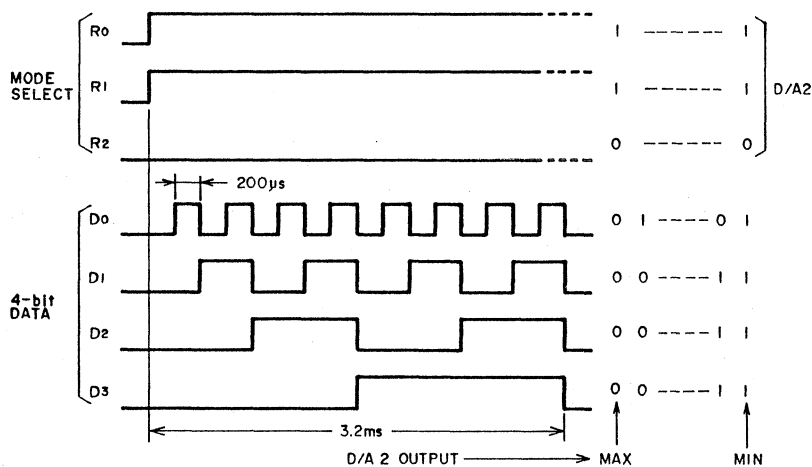

Fig. 12-8 Comparative Mode Data Format
(8) After the reset out becomes Low in (6) above, if the comp in becomes Low within 400 ms, then it switches to comparative mode (refer to figures 12-8 and 12-9). This comparative mode checks if the recorded level is within the acceptable limits or not.
(9) In the comparative mode, D/A 2 is selected on U603 by the mode select signal, and the 4-bit data is converted to analogue (DC) signals by D/A 2, and applied to pin 3 of the U607 comparator.
(10) In the comparative mode, the values for VCA, EQ, and D/A 1 in U603 are maintained at the same as they were during leader tape detection mode by the hold condenser.
(11) The 4-bit data changes from 0000 to 1111, changing the D/A 2 output voltage from maximum to minimum.
(12) When 0000 4-bit data is detected, the potential of pin 3 exceeds that of pin 2 on U607, changing comp in from Low to High.
(13) In response to the changing 4-bit data, the potential of pin 3 of U607 falls in a step form, and when it drops below that of pin 2 (proportional to the play level DC potential), comp in changes from High to Low.